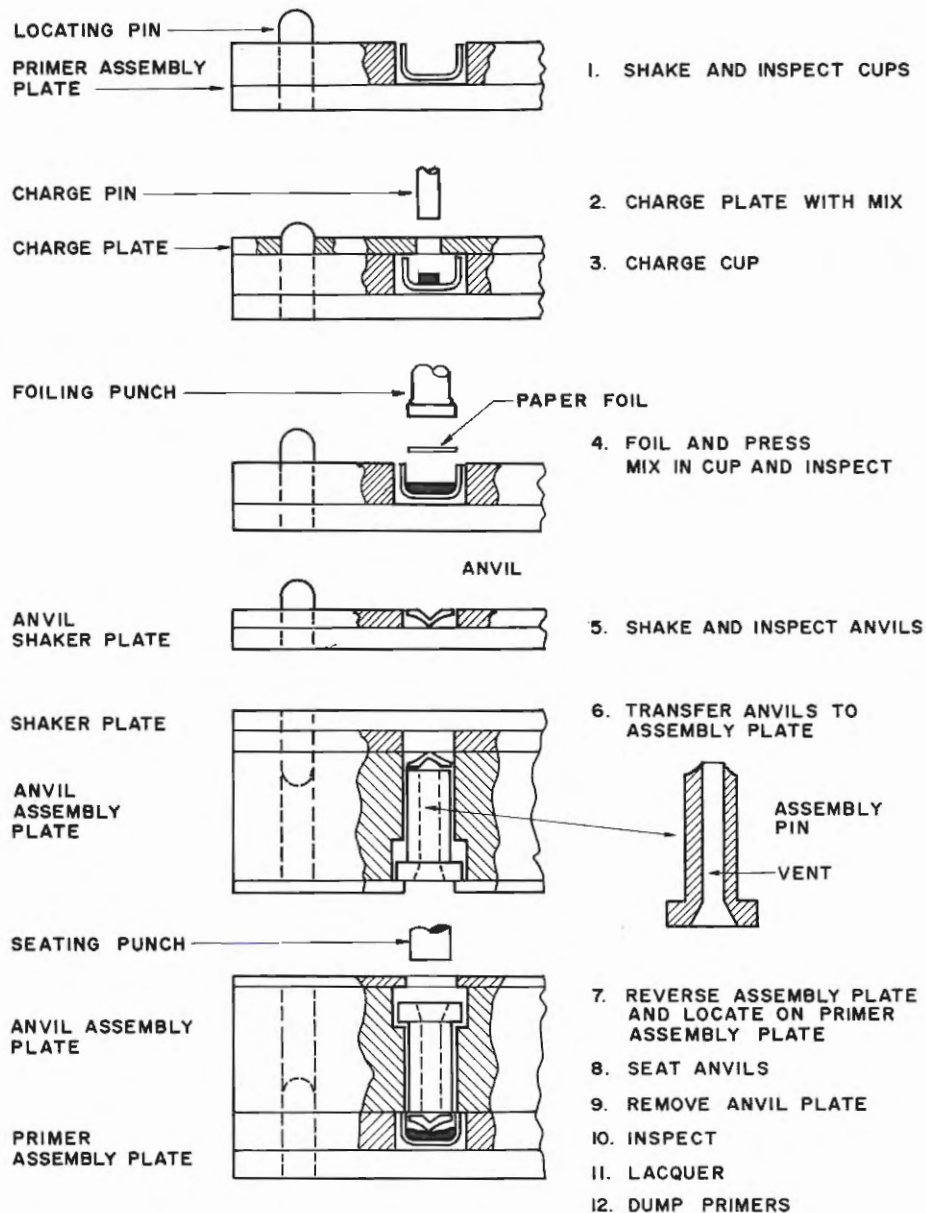

Figure 46: Primer Loading Steps
10. After removal from the lacquer unit, the plate of loaded primers is carefully inspected for missing, tipped, or deformed anvils. Loose anvils are caught by lightly scraping the primers in the plate. All defective primers are picked out and dropped into water for scrapping. *Figure 46* shows the various steps.